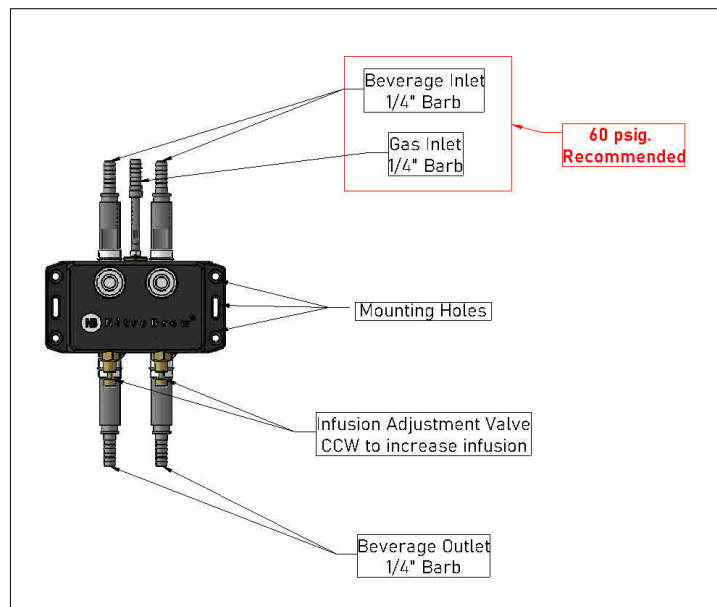

Figure 1: Setup instructions for un-carbonated beverages.
- Follow Fig.1. for a guide to all connections.